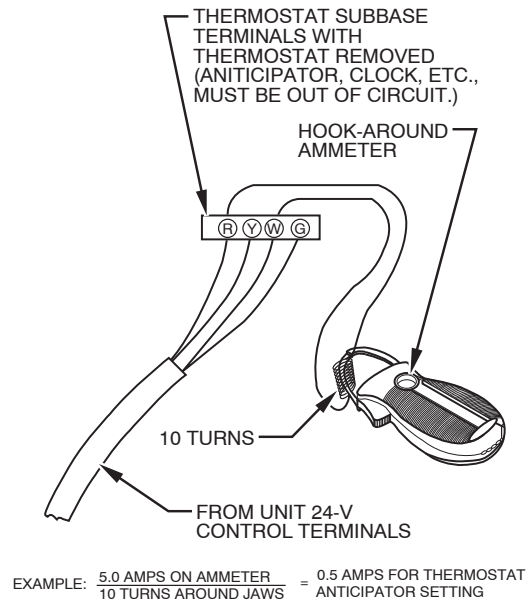

Fig. 49 - Amp. Draw Check with Ammeter
- (2.) Connect an amp. meter as shown in Fig. 49 across the R and W subbase terminals or R and W wires at wall.